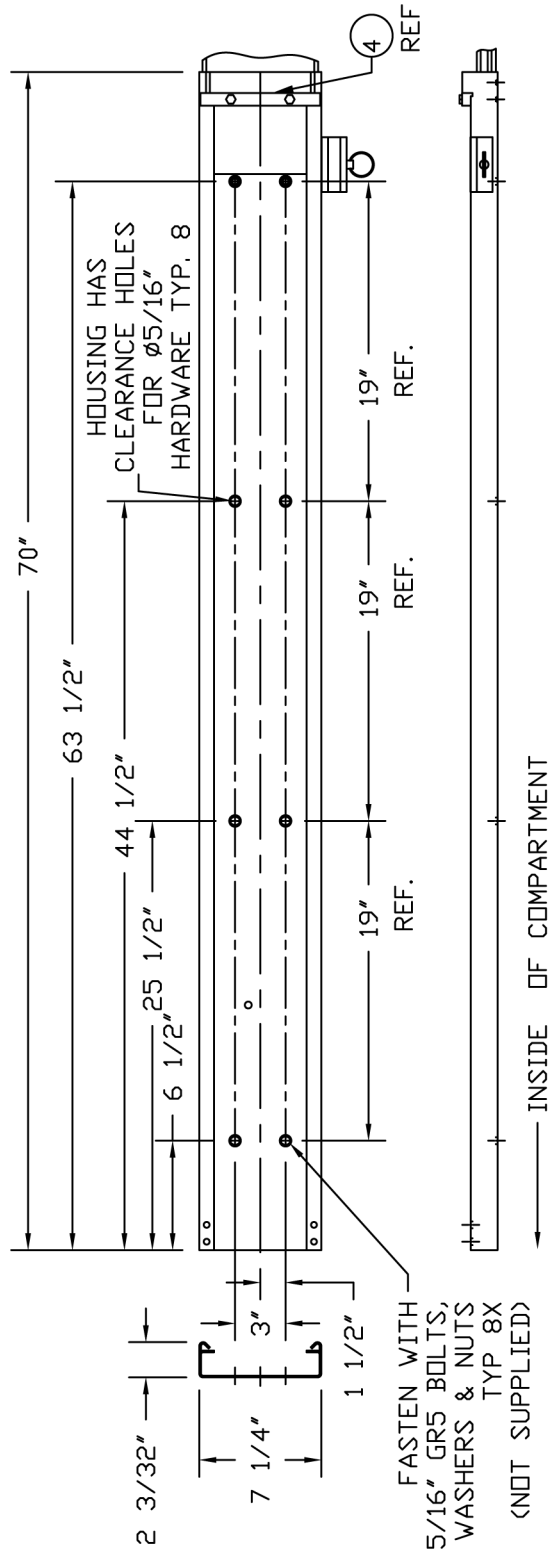

Figure 2
1. Position the QR-SOFD in the apparatus. Check for fit and function by using the Handle (12) to pull the Main Slider (2) out. Allow for the Slider to fold down. Check for any interference with the apparatus.
2. Keeping the unit in the extended and folded down position, mark and drill the hole mounting locations shown in Figure 2.
3. Mount the Stationary Housing (1) to the Apparatus using 8 sets of GR5 5/16 bolts, washers and nuts (not supplied).